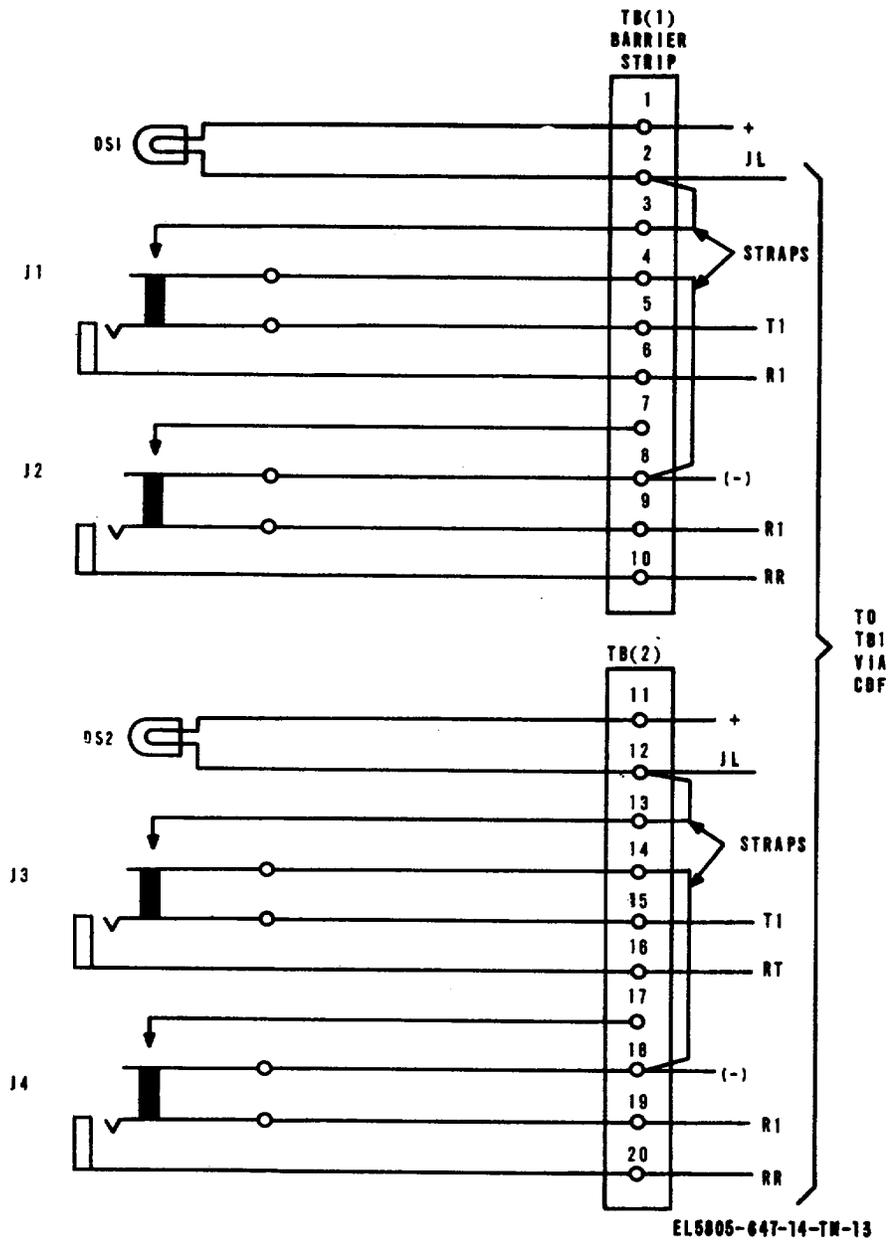

Figure 2-10. Jack and Lamp and Lamp Panel JLP-1, strapping connections.
(1) Panel interconnection.
(a) Connect the bridge assembly to the power supply mounted on shelf 2 of the common equipment, in accordance with the bridge assembly DC power wiring chart ((3) below). Refer to figure 2-10 for terminal point locations on rear mounted terminal strips.